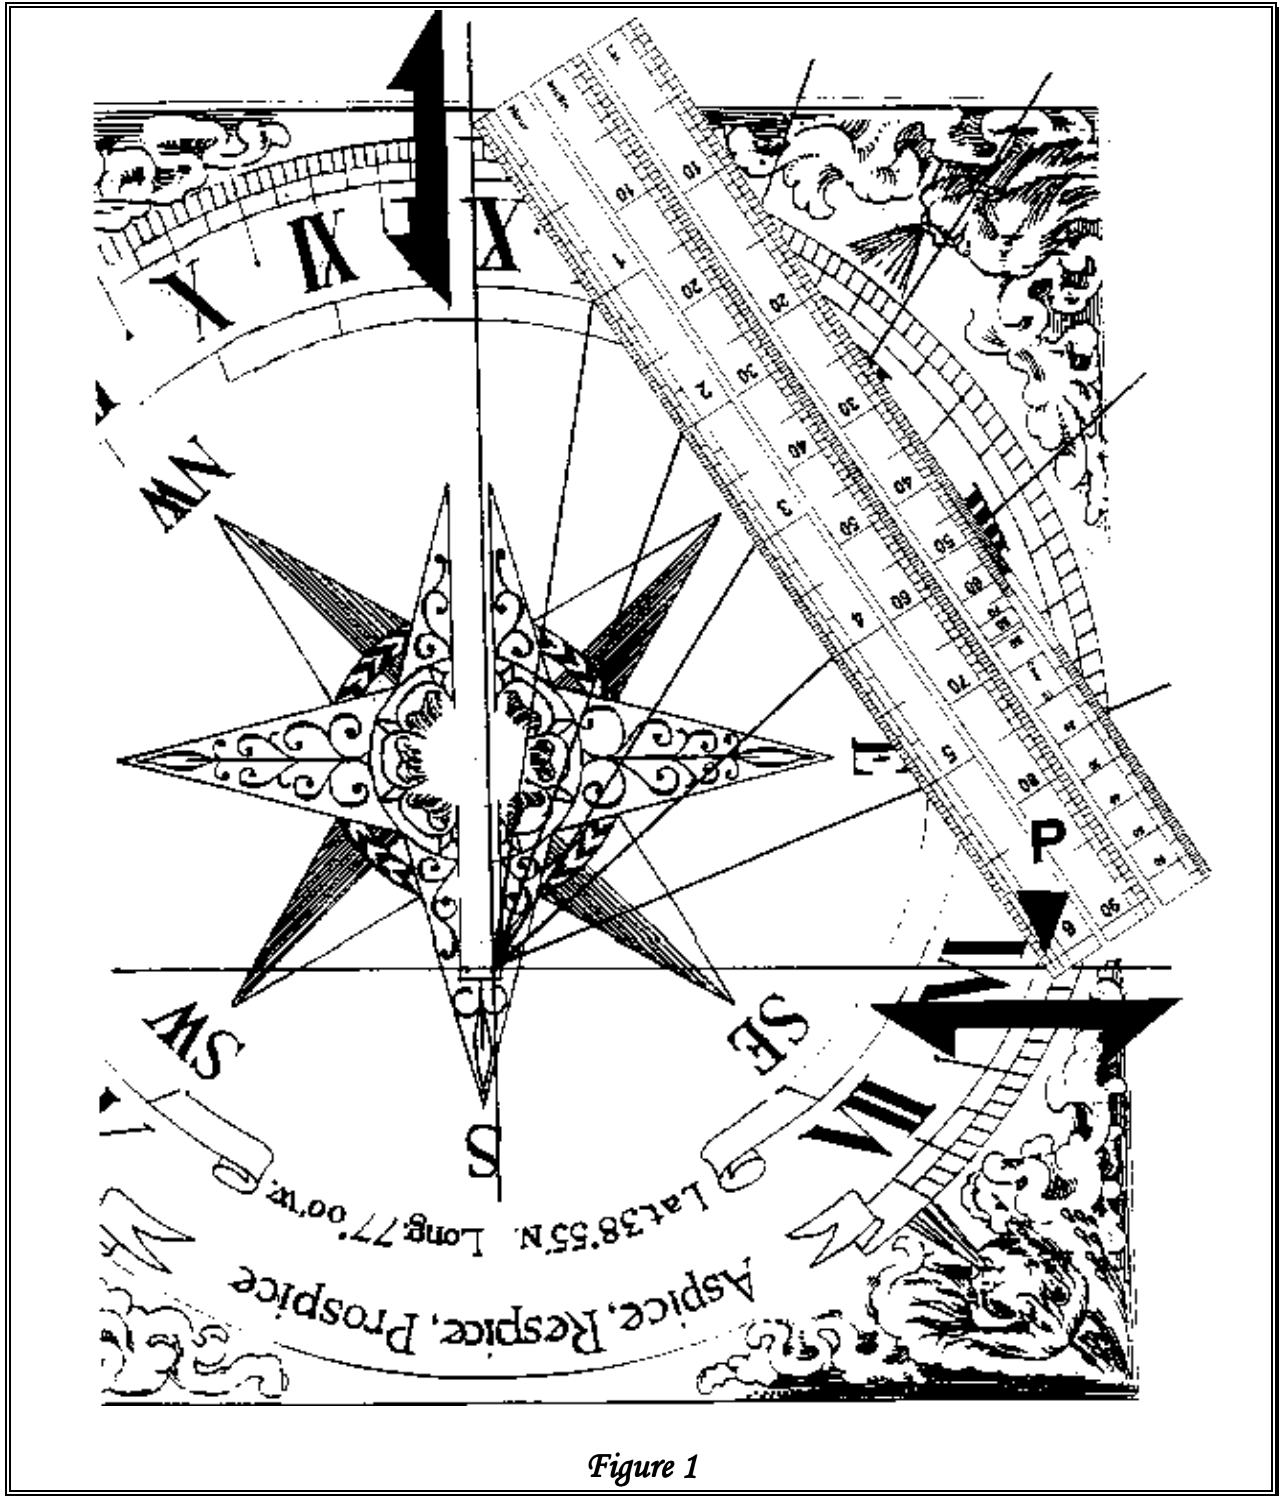

Figure 1
Step 2. Place Serle's "Hour" scale on the tracing, with the zero end on the "twelve o'clock" line, and the "6" end on the "six o'clock" line. Slide and pivot the scale, keeping the end points on these lines, until the hour marks on the scale make the best match with the radial hour lines on the dial plate (see Figure 1). Mark the point on the "six o'clock" line where the hour scale touches it.